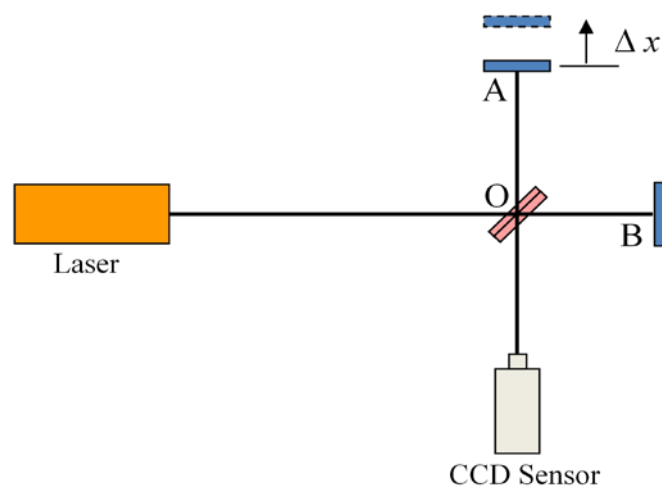

Figure Q2[b]
[b] The Michelson interferometer shown in Figure Q2[b] uses an expanded He-Ne ($\lambda = 632\text{nm}$) laser beam. The CCD sensor has 16 bit image resolution.
- [c] If the mirror A in Figure Q2[b] is not displaced but is tilted about the vertical plane by an angle of 0.05° determine: (i) the number of fringes and (ii) the spacing between the fringes that can be observed on the CCD sensor. Given that both mirrors are of width 12 mm. Assume that the expanded beam covers the whole surface of mirror.